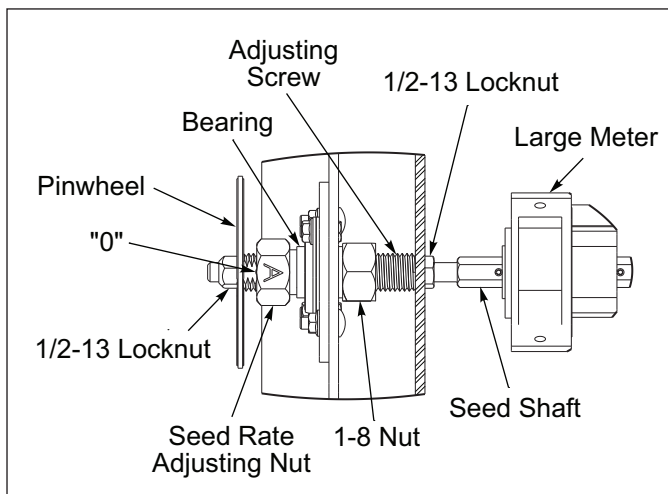

Figure 4-17: Large Meter Seed Box Rate Adjuster
2. **Large Meter Box:** 1/2-13 Locknuts on both ends of the Adjusting Screw are used to adjust all Seed Meters the same amount. See Figure 4-17. To adjust Seed Meters to be closed at "0A", loosen 1/2-13 Locknuts and set Adjusting Screw to "0A". Slide Seed Shaft to close all Seed Meters. Tighten 1/2-13 Locknuts against Adjusting Screw. *Once adjusted DO NOT loosen or adjust the 1/2-13 Locknuts.*